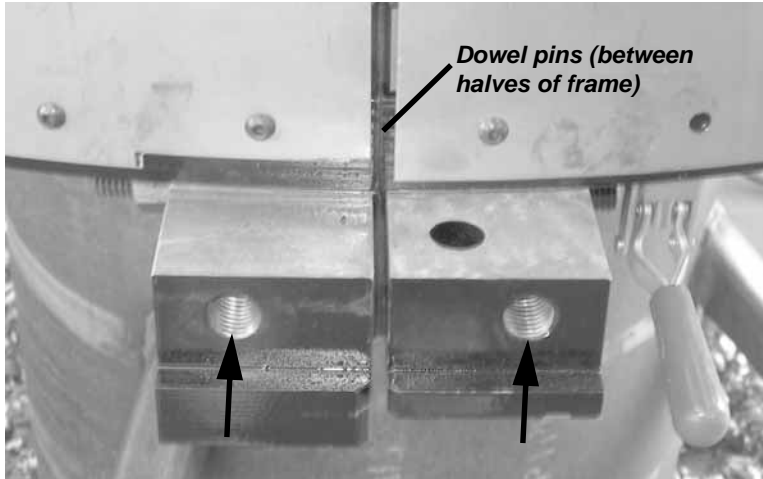

Figure 5-4. The hinge side of the frame has two threaded holes for attaching the hinge.
3. Attach the hinge and the jack to the hinge side of the frame. (The hinge side has two threaded holes, as shown in Figure 5-4.)